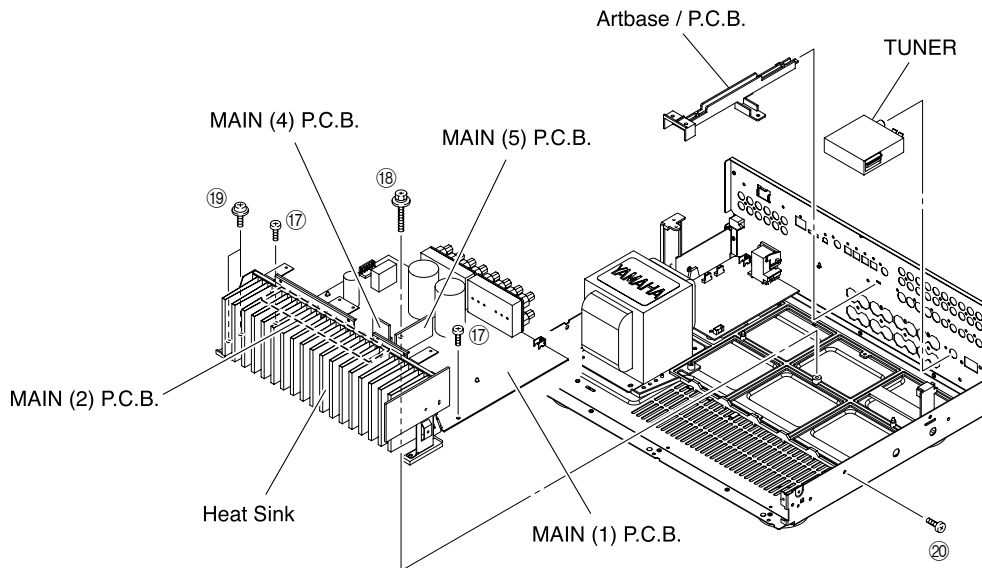

Fig. 5
- b. Remove the TUNER. (Fig. 5)
**9. Removal of MAIN (1), (2), (4) and (5) P.C.B.s**
- a. Remove the Artbase/P.C.B.. (Fig. 5)
- b. Remove 2 screws (17), 1 screw (18), 2 screws (19), 1 screw (20). (Fig. 5)
- e. Remove MAIN (1), (2), (4) and (5) P.C.B.s together with the Heat Sink. (Fig. 5)